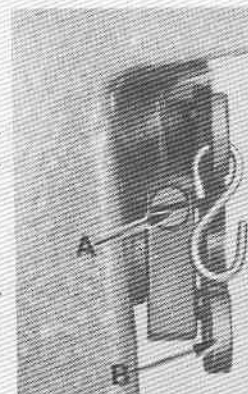
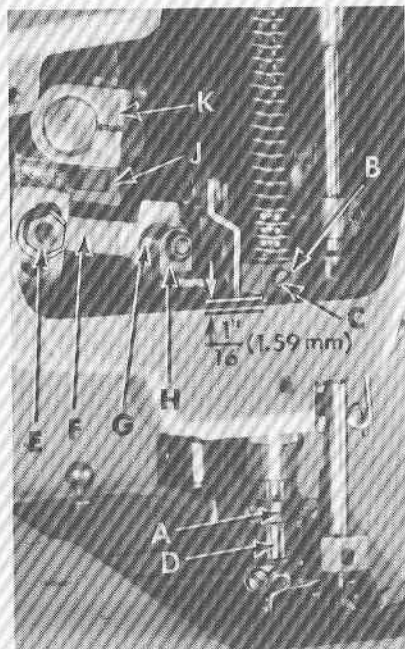

Fig. 14
Fig. 15
If adjustment is needed, loosen tension release lever (A, Fig. 14), located at the back of the machine and move tension disc separator as required. Retighten screw. After adjustment there should be no binding at any point.
The height of the presser bar (A, Fig. 15) is set correctly if it is possible to remove the presser foot when the foot lifter lever (B, Fig. 14) is fully depressed. Also there should be approximately 1/16 inch (1.59 mm) clearance between lower surface of the presser bar connection and guide (B, Fig. 14) and the bottom surface of head opening in the bed when the foot lifter lever is released and the presser foot resting on the throat plate, with the feed dog down below the throat plate.
Set the presser bar collar (D, Fig. 15) so that the presser foot does not contact the spreader when raised.
Set the arc travel of the spreader, as listed below, by loosening nut (E, Fig. 15) and moving the connecting link (F) up or down to the desired amount of arc travel. Measurement of the spreader arc travel is made by placing a scale between the two extreme spreader arc travel points.
Set the ball stud (G, Fig. 15) in the spreader holder carrier (H) square to the front of the bed when at the middle of its travel as viewed in Figure 15. This is accomplished by loosening nut (J) and moving the spreader rocker shaft arm (K) to position the carrier properly.